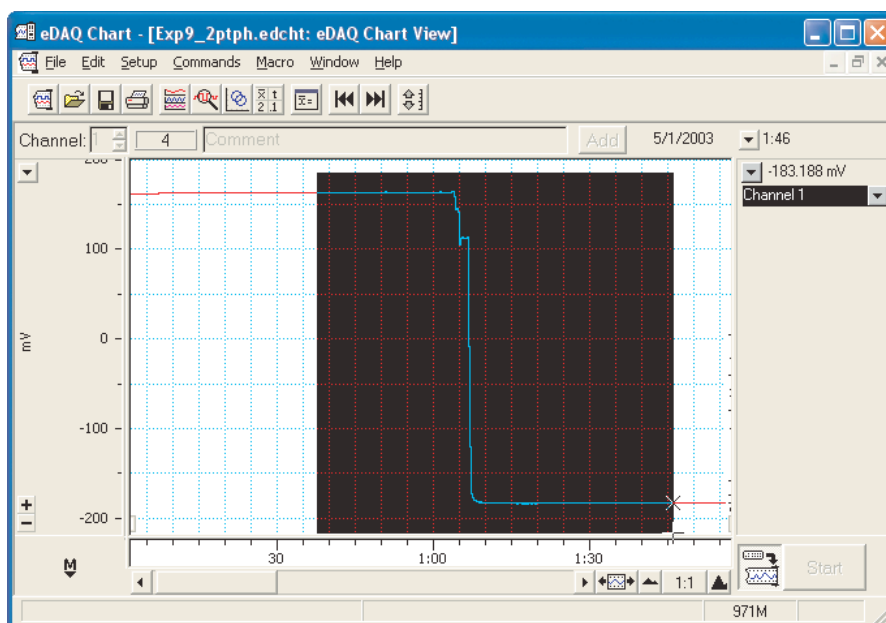

Figure 6.1 Selecting data from main Chart Window for two point pH calibration
- 6.2.8** In the main Chart window, make a selection of data covering the two pH regions of interest (**Figure 6.1**), then choose the **pH...** command from the Channel Function pop-up menu. The pH dialog box will appear (**Figure 6.2**).